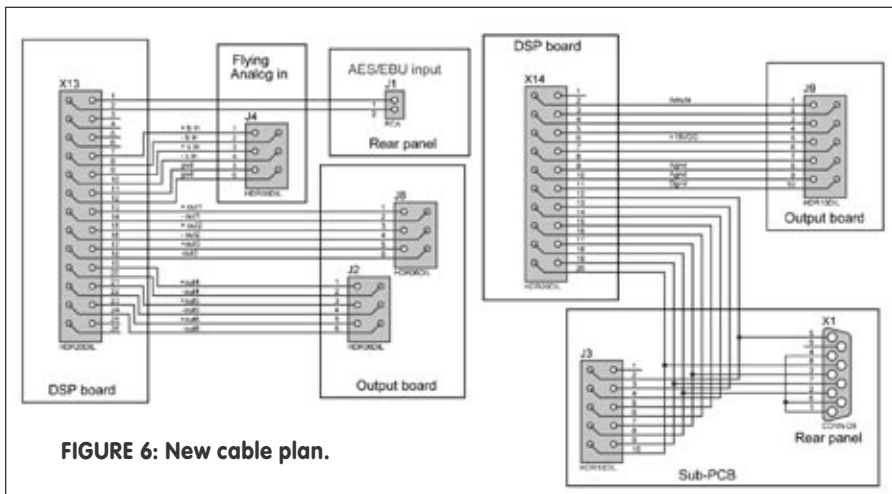

FIGURE 6: New cable plan.
The cable plan is shown in **Fig. 6**, while **Photos 1** and **2** show the cable run in the modified unit. **Photo 3** shows the cable set you need to build. Not all wires are used; for instance, there is no need to run all supply lines to the new board (except +15V for the reed relays), and the analog input lines are also not used (but
see next section). So you should be careful with the cable alignment in the headers, because in some cases the flat cable has fewer wires than the header pins and the cable needs to be aligned left or right. **Figure 6** and **Photo 2** should make that clear.
Currently, I use a WBT RCA jack in one of the unused XLR input mounting holes to connect the digital input (pin X13(1) to RCA center pin, X13(2) to RCA ground pin; see **Fig. 6**). As mentioned before, you also lose about 10dB of excess gain, so this is a good thing for home use.